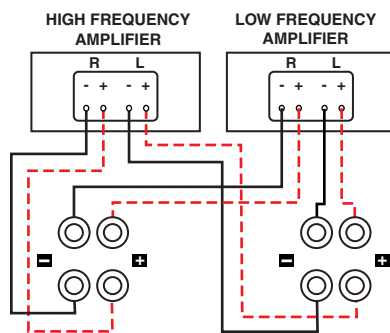

Figure 7
**Bi-amping** (Figure 7) allows you to use separate amplifiers for the high and low frequency sections of your loudspeaker for greater dynamic range and lower distortion. After removing the jumpers, connect the speaker wires from the high frequency amplifier outputs to the upper set of terminal posts on each speaker. Follow the same procedure for connecting the low frequency amplifier outputs to the lower set of terminal posts on each speaker. Remember to maintain correct wiring polarity (+ to +, - to -) in all connections.